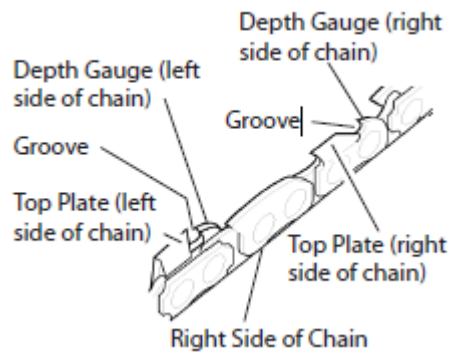

Fig.16
4. Hold file guide level. Make sure 30° mark on file guide is parallel to center of guide bar (see **Fig.16**). This will ensure that you file the cutters at 30° angle.
5. File from inside towards outside of cutter until sharp. Only file in this one direction (see **Fig.16**). (Note: Two or three strokes with file should be sufficient to sharpen cutter.)